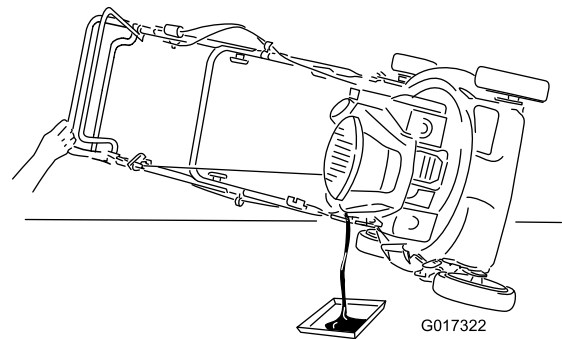

Figure 20
2. Tip the machine onto its side, with the air filter up, then remove the dipstick to drain the used oil out through the oil-fill tube (Figure 20).